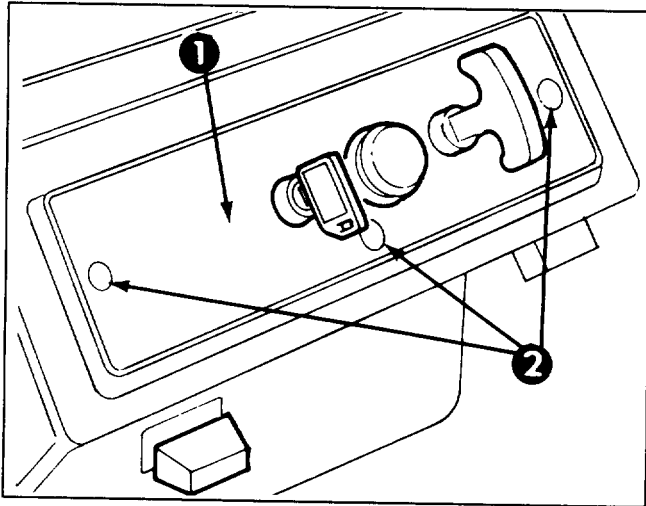

Figure 15
1. REMOVE CONTROL PANEL (Fig. 15)—Remove (3) capscrews securing control panel to housing. Remove ignition key and lift off panel, allowing it to hang on recoil rope.